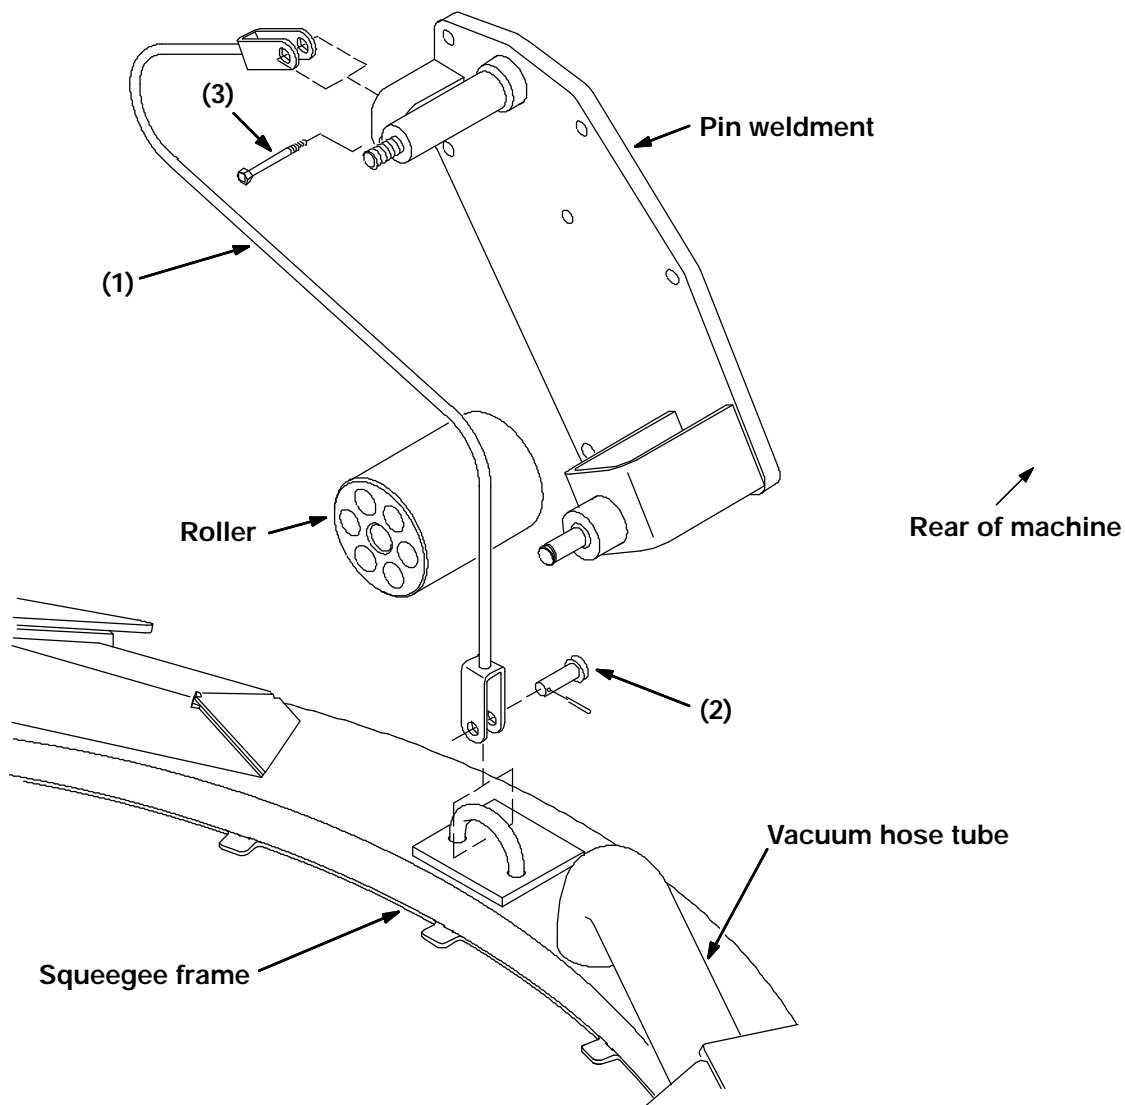

FIG. 1 - Rear Squeegee Lift-Cable Replacement
(Refer to FIG. 1)
4. Remove the hair pin and clevis pin holding the lower clevis on the squeegee lift cable to the squeegee frame. (Refer to FIG. 1)
5. Remove and discard the long hex screw holding the upper clevis on the squeegee lift cable to the machine frame. Note the routing of the old lift cable and remove it from the machine. (Refer to FIG. 1)
6. Install the new squeegee lift cable (1) in the machine. Make sure to route the new cable the same way the old one was routed. (Refer to FIG. 1)
7. Install the new long hex screw (3) in the upper clevis of the new lift cable. Tighten to 18 - 24 Nm (15 - 20 ft lb). (Refer to FIG. 1)
8. Install the clevis pin (2) and hair pin the lower clevis of the new cable and squeegee frame. (Refer to FIG. 1)
9. Plug the vacuum hose onto the tube on the squeegee frame. (Refer to FIG. 1)